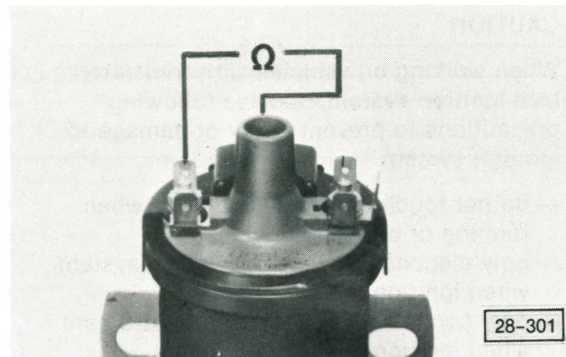

Fig. 6 Ignition coil secondary resistance, checking
- check secondary resistance (Fig. 6)